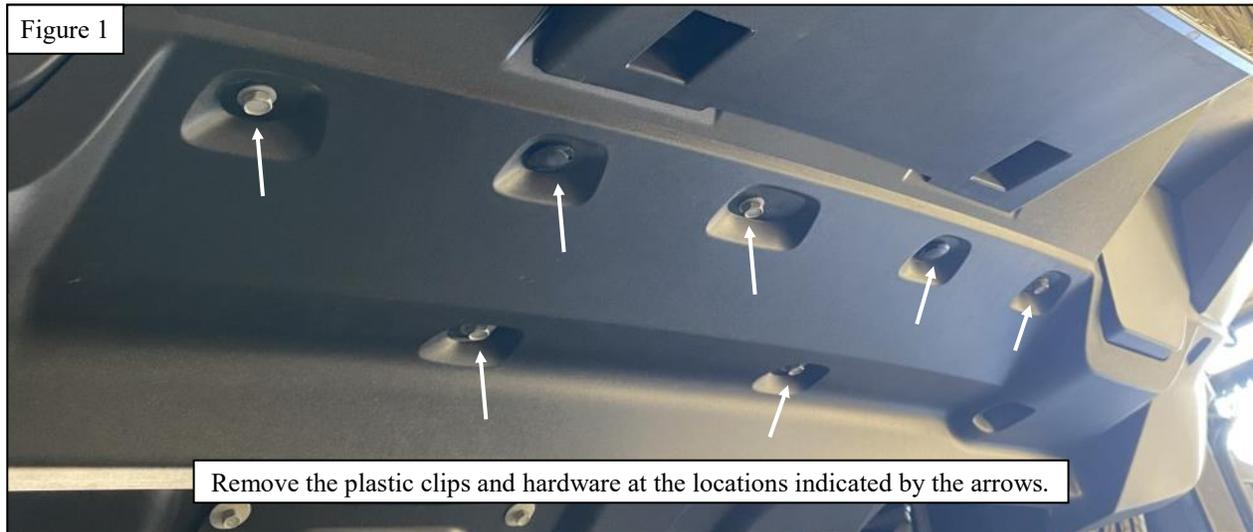

Figure 4
4. Start to carefully pry on the retaining clips shown in **Figure 4 & 5** along the top of the fascia trim of the vehicle in order to remove the fascia trim. **Note:** *The plastic retainers need to be removed carefully in order to be able to reinstall the fascia trim.*